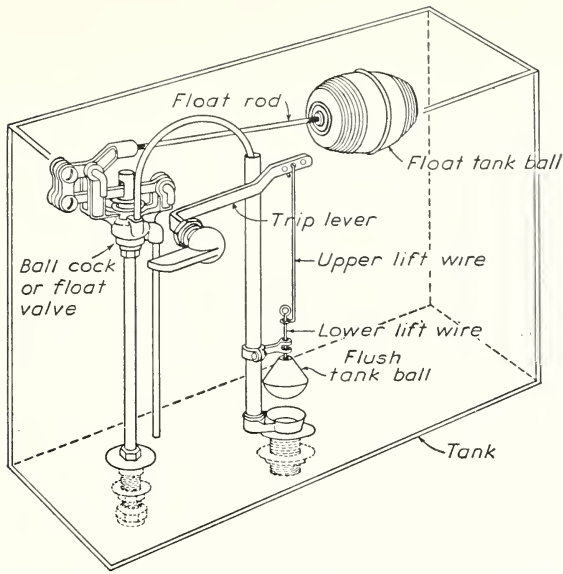

FIGURE 49.—Flush valve mechanism for filling flush tank.
*Flush tank.*—The supply pipe that fills the flush tank is fitted with a lever ball cock, which operates somewhat like a compression-type faucet having a plunger with a rubber washer to close the opening (see fig. 49). The water supply to the tank is turned on and off by the raising and lowering of a hollow ball float connected to the plunger by a lever mechanism. When the flush valve is opened, and the water level goes down, the ball float goes down with it and the lever raises the plunger, allowing a fresh supply of water to enter the tank. When the flush valve is again closed, the incoming water gradually refills the tank and in rising carries the float up with it, slowly lowering the plunger into its seat and stopping the filling process. An overflow tube or pipe is provided in the flush tank to carry off the water should it rise above its proper level. This pipe empties into the closet bowl.
If the valve is out of order, water may continue to run into the bowl after the handle has been pressed. In valves similar to the type shown in figure 49, this flow may result from stoppage of the bypass (*A-24*) or from a deposit of grit on the relief valve seat. If the bypass is clogged, water cannot pass into the upper chamber to close the valve. If there is sediment on the relief valve seat or if the seat is badly worn, the valve may not close tightly, allowing the water to escape. The segment diaphragm (*A-56*) may also deteriorate in time and need to be replaced. The relief valve seat or washer and the segment diaphragm are made of rubber and are usually sold together, as it is generally advisable to replace both at the same time.